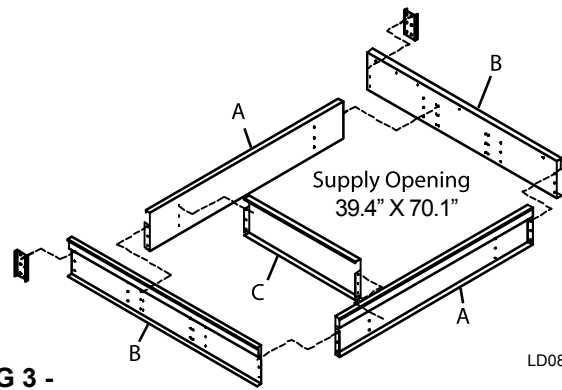

FIG 3 -
- Install the 3/8" bolts on both ends of End Panels (A) and Supply Panels (C) through the designated holes in Side Panels (B) and End Panels (A). Make sure the corners are flush and square as shown in Figure 3. Tighten the hardware securely.